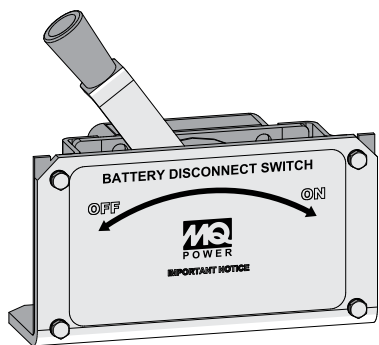

Figure 2. Battery Switch (OFF)
2. Place the **Battery switch** (Figure 2) in the **OFF** position.